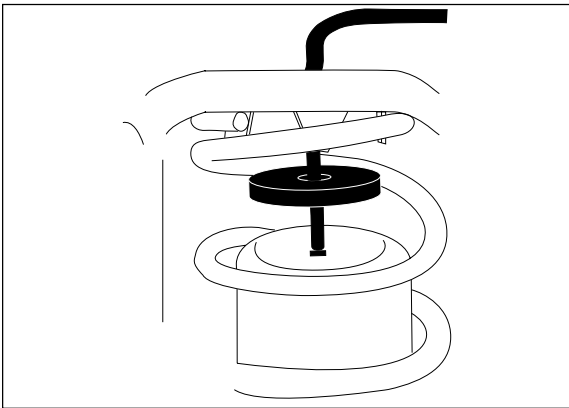

Figure 2
4. Push the cylinder to the bottom of the coil and insert protector at the top (Figure 2).
If the vehicle has a rough and harsh ride it may be due to either too much pressure or not enough (fig. 2). Try different pressures to determine the best ride comfort.